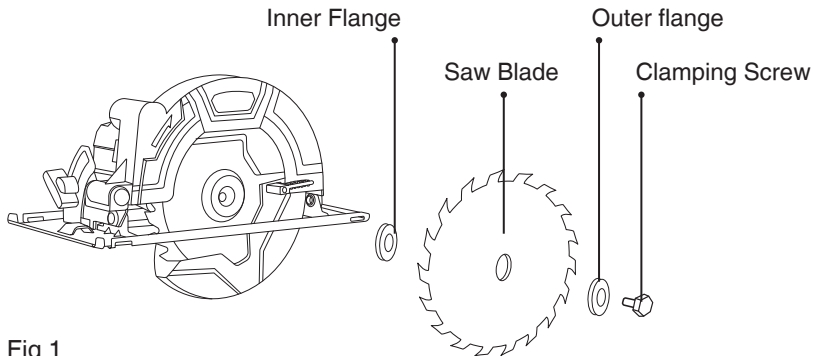

Fig 1
- 1- To remove the blade, Press the Lock shaft so that it cannot revolve, then use the Hex wrench to loosen the hex bolt counterclockwise. Then remove the hex bolt, outer flange and blade.(Fig1)